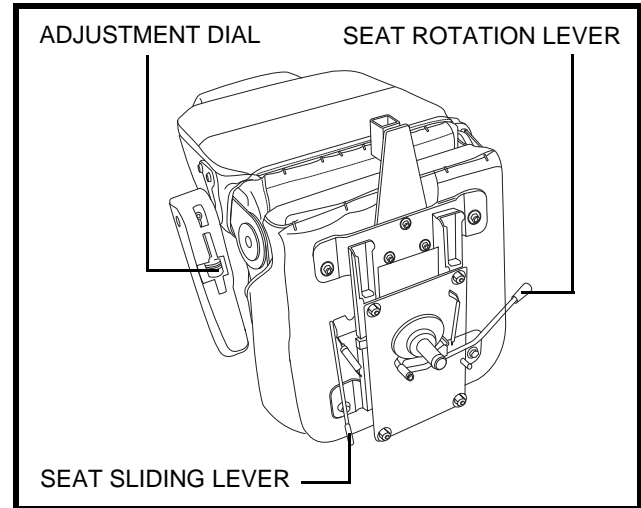

Figure 17. Seat Position Adjustments
1. Push forward on the seat rotation lever to disengage the seat. **See figure 17.**
1. Move the seat sliding lever located at the lower left side of the seat outward. **See figure 17.**